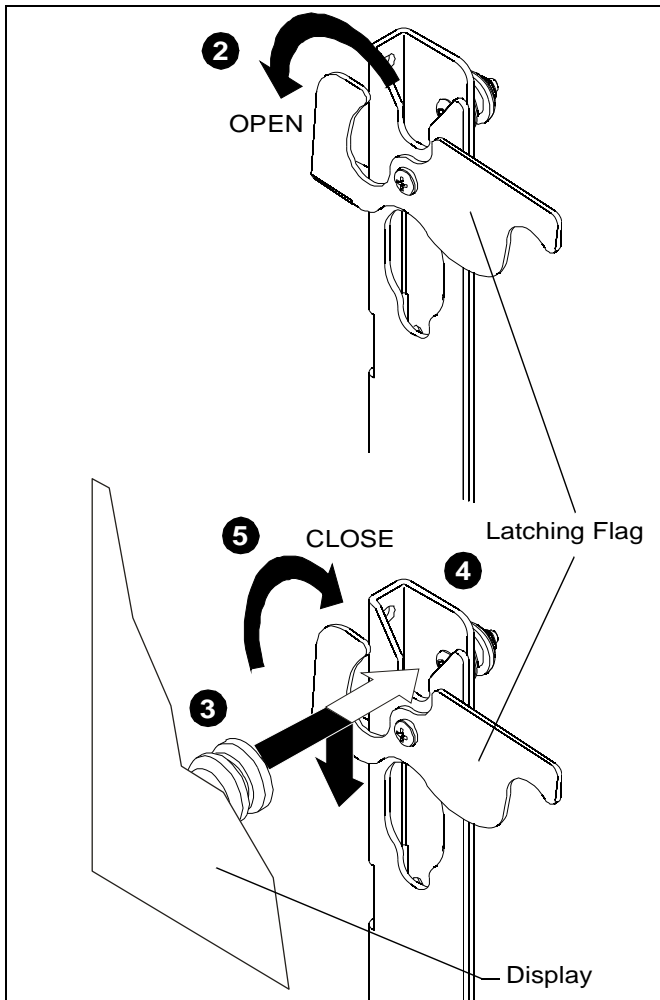

Figure 7
2. Verify latching flag on accessory is in the OPEN position. (See Figure 7)
5. Move latching flag to CLOSED position to secure display on accessory. (See Figure 7)